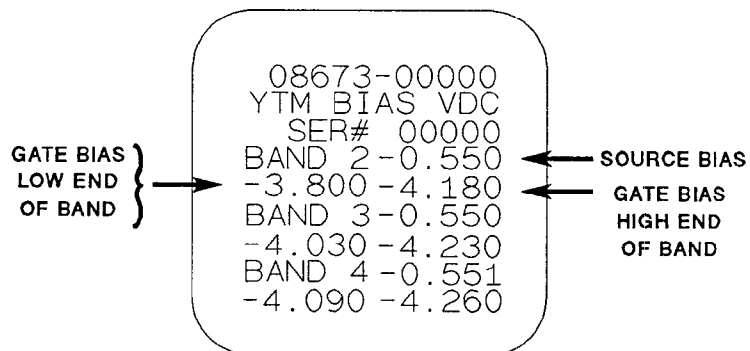

Figure 5-18. YTM Bias Label
- a. The bias voltages are listed on a label located inside the Signal Generator near the A2A5 assembly on the A2 Controller chassis. Data on the label is similar to that shown in figure 5-18. The label has unique calibration voltages for source and gate bias for the YTM with the indicated serial number. Notice that the calibration label has one source voltage and two gate voltages for each band.
4. Locate SRD calibration label located directly behind A2A5 20/30 Divider assembly. Sample label is shown. (See figure 5-18.)